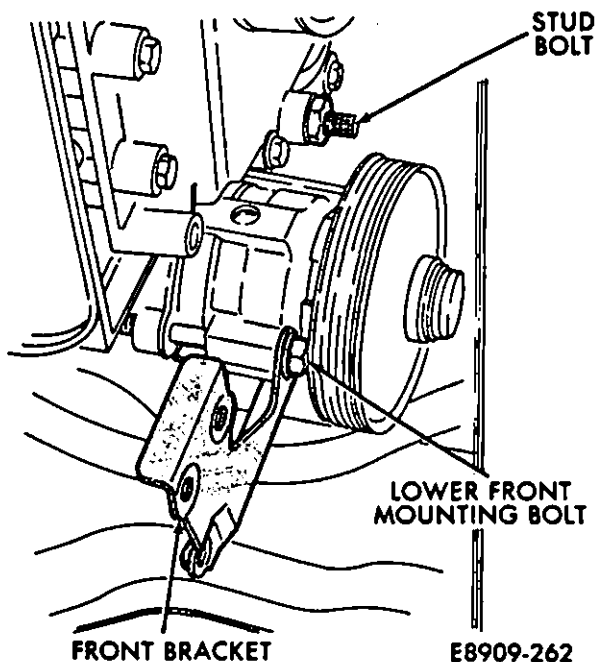

Fig. 27—Power Steering Pump Front Bracket
- (14) Install the stud bolt through the timing cover and thread it into the rear bracket (Fig. 27). Tighten the stud bolt to 40 N·m (30 ft-lbs) torque.
- (15) Tighten the rear mounting bolts to 27 N·m (20 ft-lbs) torque.
- (16) Pivot the power steering pump front bracket up over the stud bolt (Fig. 27).